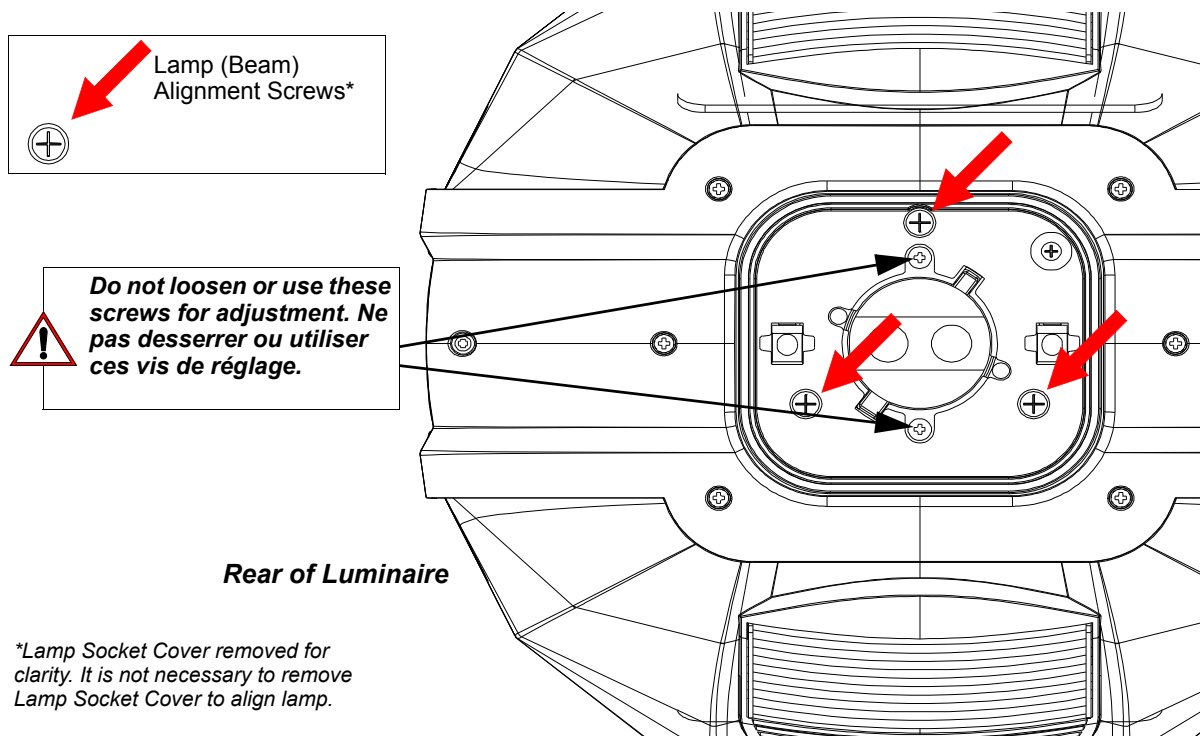

Figure 3: Lamp Alignment Screws
- Step 5. Using three alignment screws (as indicated with Red Arrows in Figure 3) adjust hot spot to center of beam.